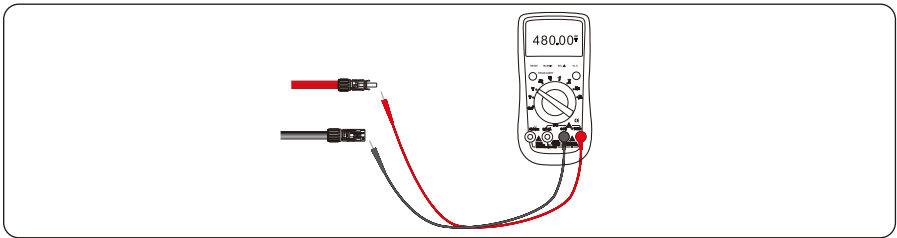

Figure 5.16 Checking the voltage of every route Strings
Step 5 Measure the voltage of every route Strings using a multimeter. Ensure that the polarities of the DC input power cables are correct, as shown in Figure 5.16.